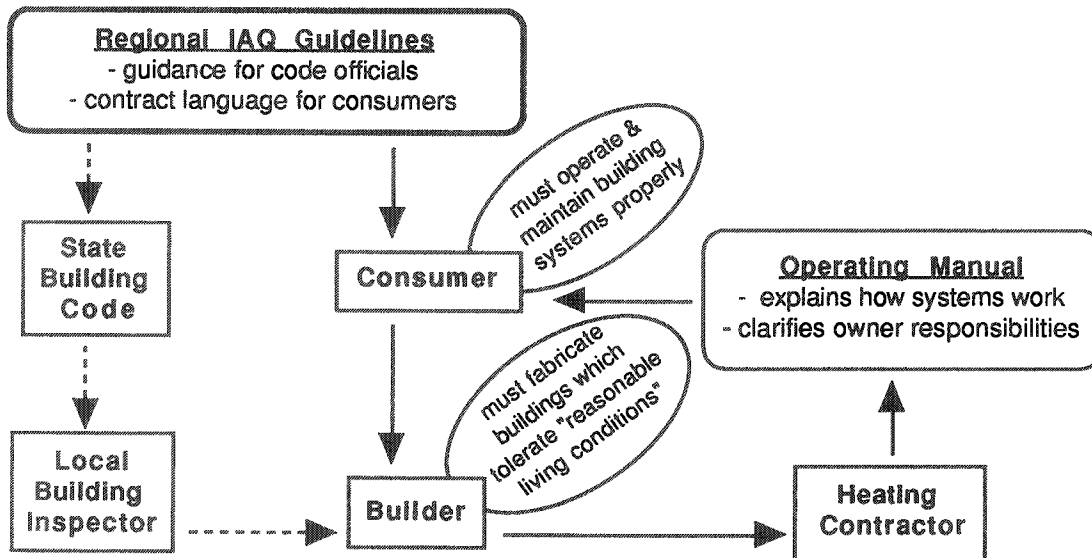

Figure 2. Delivery System
3. *Delivery System* changes which rationalize and clarify the responsibilities of the many roleplayers involved in the design, construction and operation of a home such that elements of the Design Guidelines are not lost in execution. (Figure 2)